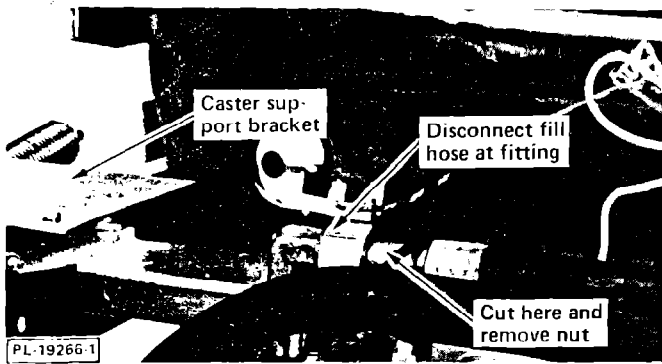

Fig. 9
6. The two front caster support brackets (Fig. 9) are removed next. Each one has four screws, three of which must be removed from the inside and one which must be removed from the outside.
7. Disconnect the fill hose at the compression fitting (Fig. 9) by loosening the compression nut with a wrench while holding the elbow with another wrench. Retain the compression nut (for use when connecting the fill line) by cutting the brass tube with a hacksaw between the hose ferrule and the nut (Fig. 9). A new 1/2" compression sleeve will be required when re-using the nut.